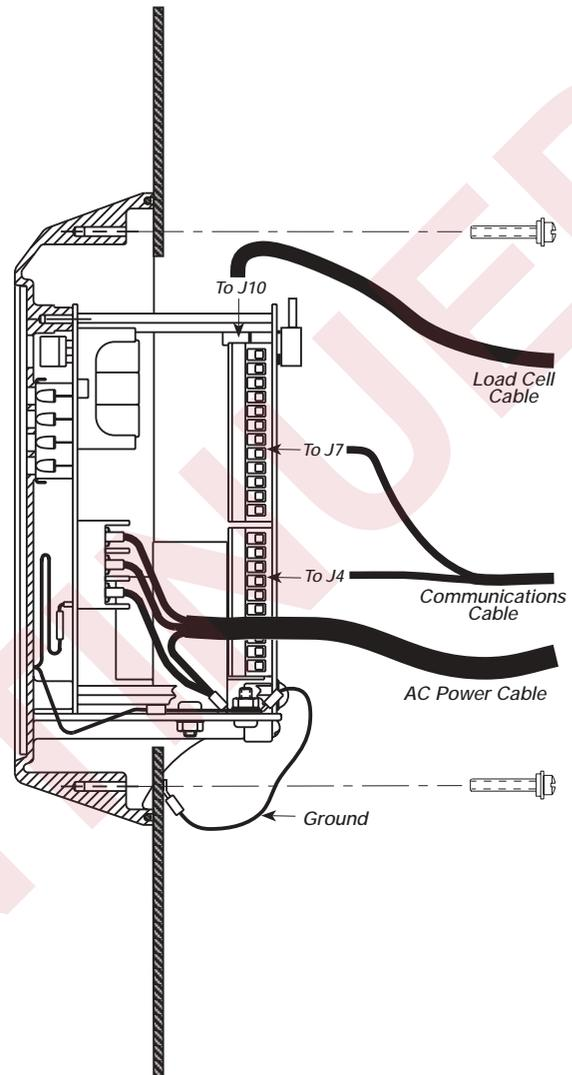

Figure 2-9. IQ plus 810 Panel Mount Wiring
6. Attach the ground wire that was connected to the lug on the indicator body to one of the five screws (see Figure 2-9).